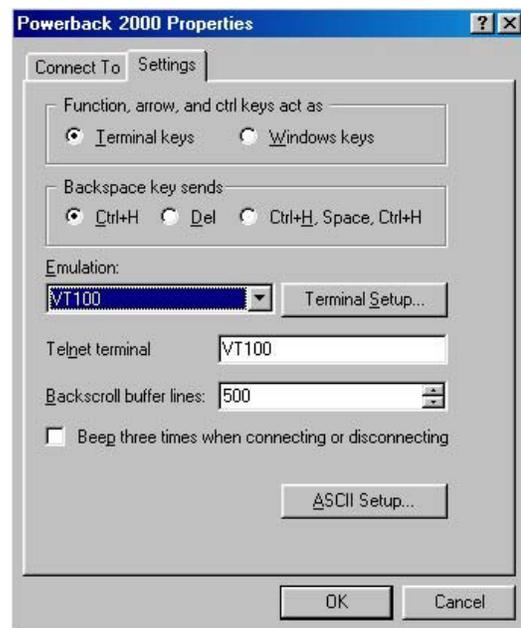

Figure 41
Step 8: The Properties screen appears (Figure 41). Click on the **Settings** Tab. Select the fields as shown.
Step 11: Click **OK**. The **Properties** screen (Figure 41) reappears.